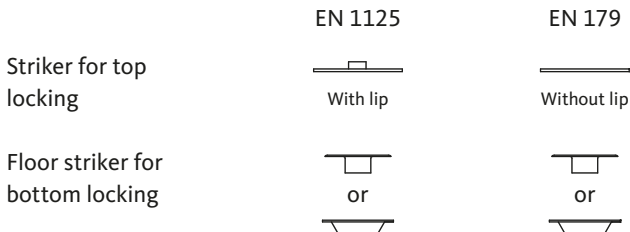

Fig. 2: Approved striker shapes
- Due to different frame designs, it may be impossible for the manufacturer to supply an appropriate keeper. In this case, the fabricator takes over responsibility, in agreement with the manufacturer, to design and install an equivalent solution as demanded. See approved striker shapes (Fig. 2).